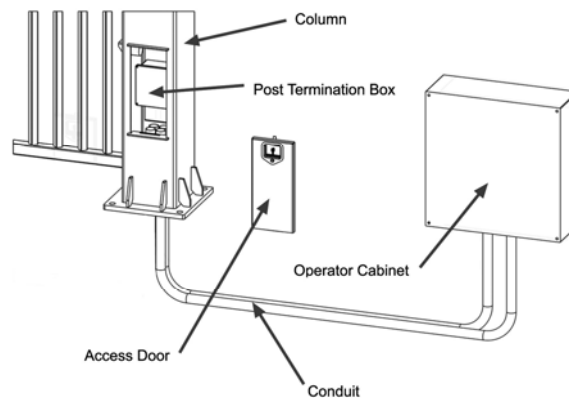

FIGURE 5.2
3. **The Post Termination Box (see figure 5.2)** is located in the column that is located nearest to the Operator Cabinet. All of the gate safety inputs except for the vehicle detector loop leads terminate into the post termination box. The multi-conductor low voltage cable connects the post termination box to the Operator Cabinet. All wires from the secondary column terminate into the Post Termination Box located in the Primary Column.